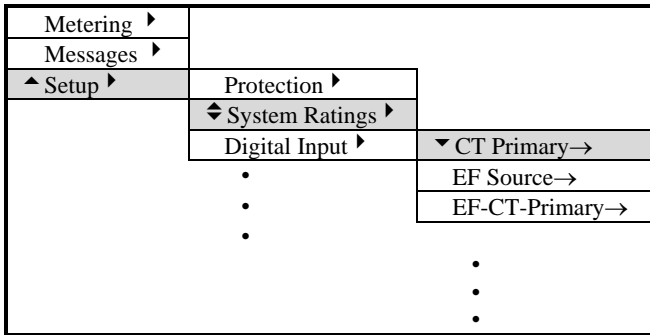

FIGURE 4.1 Menu Example.
**Example:** For the menu item shown in Fig. 4.1, the notation is *Setup | System Ratings | CT Primary*